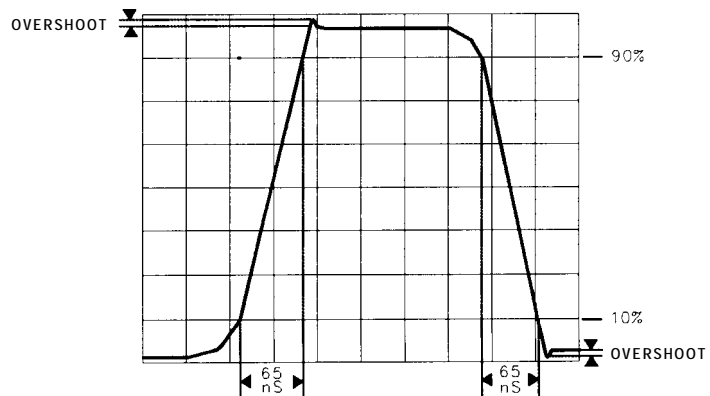

Figure 3-2 1. Rise and Fall Times and Overshoot Adjustment Waveform
18. Use the oscilloscope $\Delta t \Delta V$ markers to measure the risetime, falltime, and percent overshoot of the composite X deflection waveform. Rise and fall times should both be less than approximately 65 ns between the 10% and 90% points on the waveform. Overshoot should be less than 3% (approximately 0.25 divisions). See Figure 3-2 1.